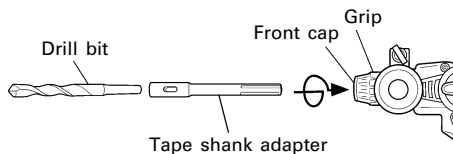

Fig. 15
- (1) Mount the taper shank adapter to the rotary hammer. (Fig. 15)
- (2) Mount the drill bit (taper shank) to the taper shank adapter. (Fig. 15)